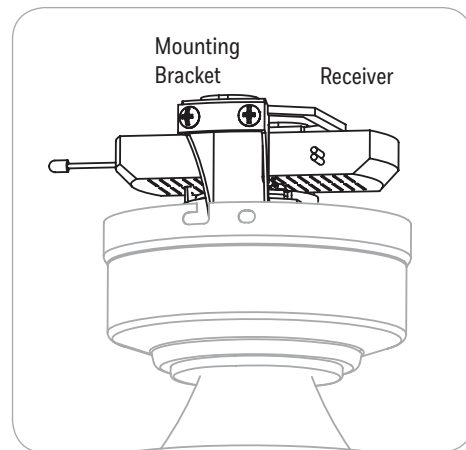

Figure 3.6
6. Insert the receiver into the opening of the mounting bracket with flat side facing up (Figure 3.6).